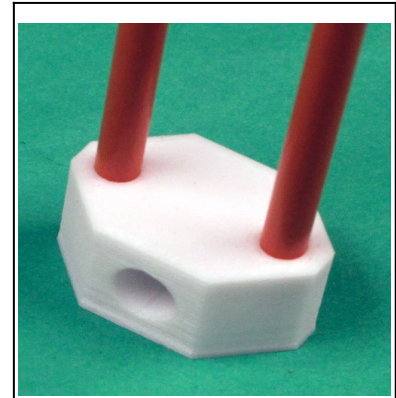

Figure 6: Feed point insulator
4. Insert the rod into the hub's front hole, and into the $\frac{3}{8}$ " side hole on a feed point insulator (Figure 6).